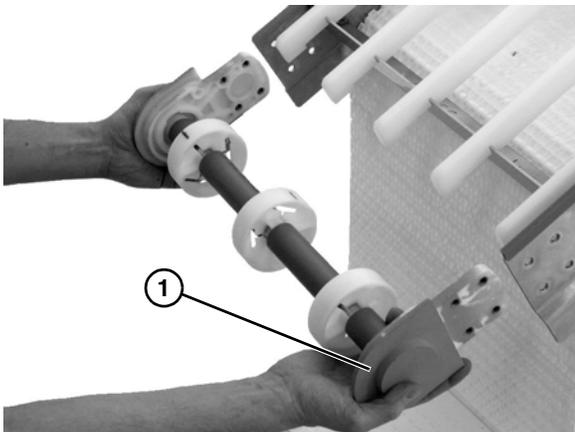

Figure 46
3. Remove idler tail assembly (Figure 46, item 1).